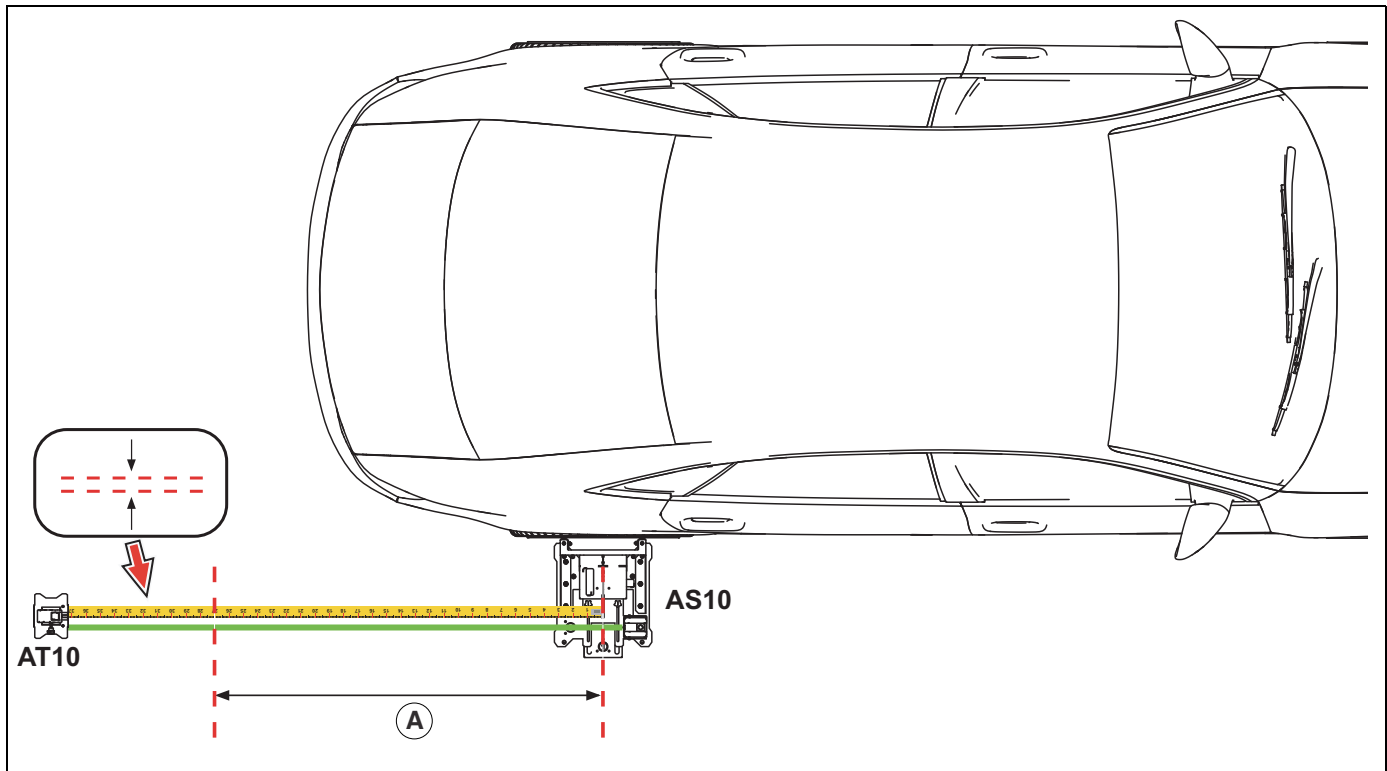

Figure 5-5
6. Pull the tape rule on the AT10 stand perpendicular to the laser from the AS10 fixture centerline notch past target distance value “A” (see Rear Camera Target Placement Instructions) and lock in place (Figure 5-5).